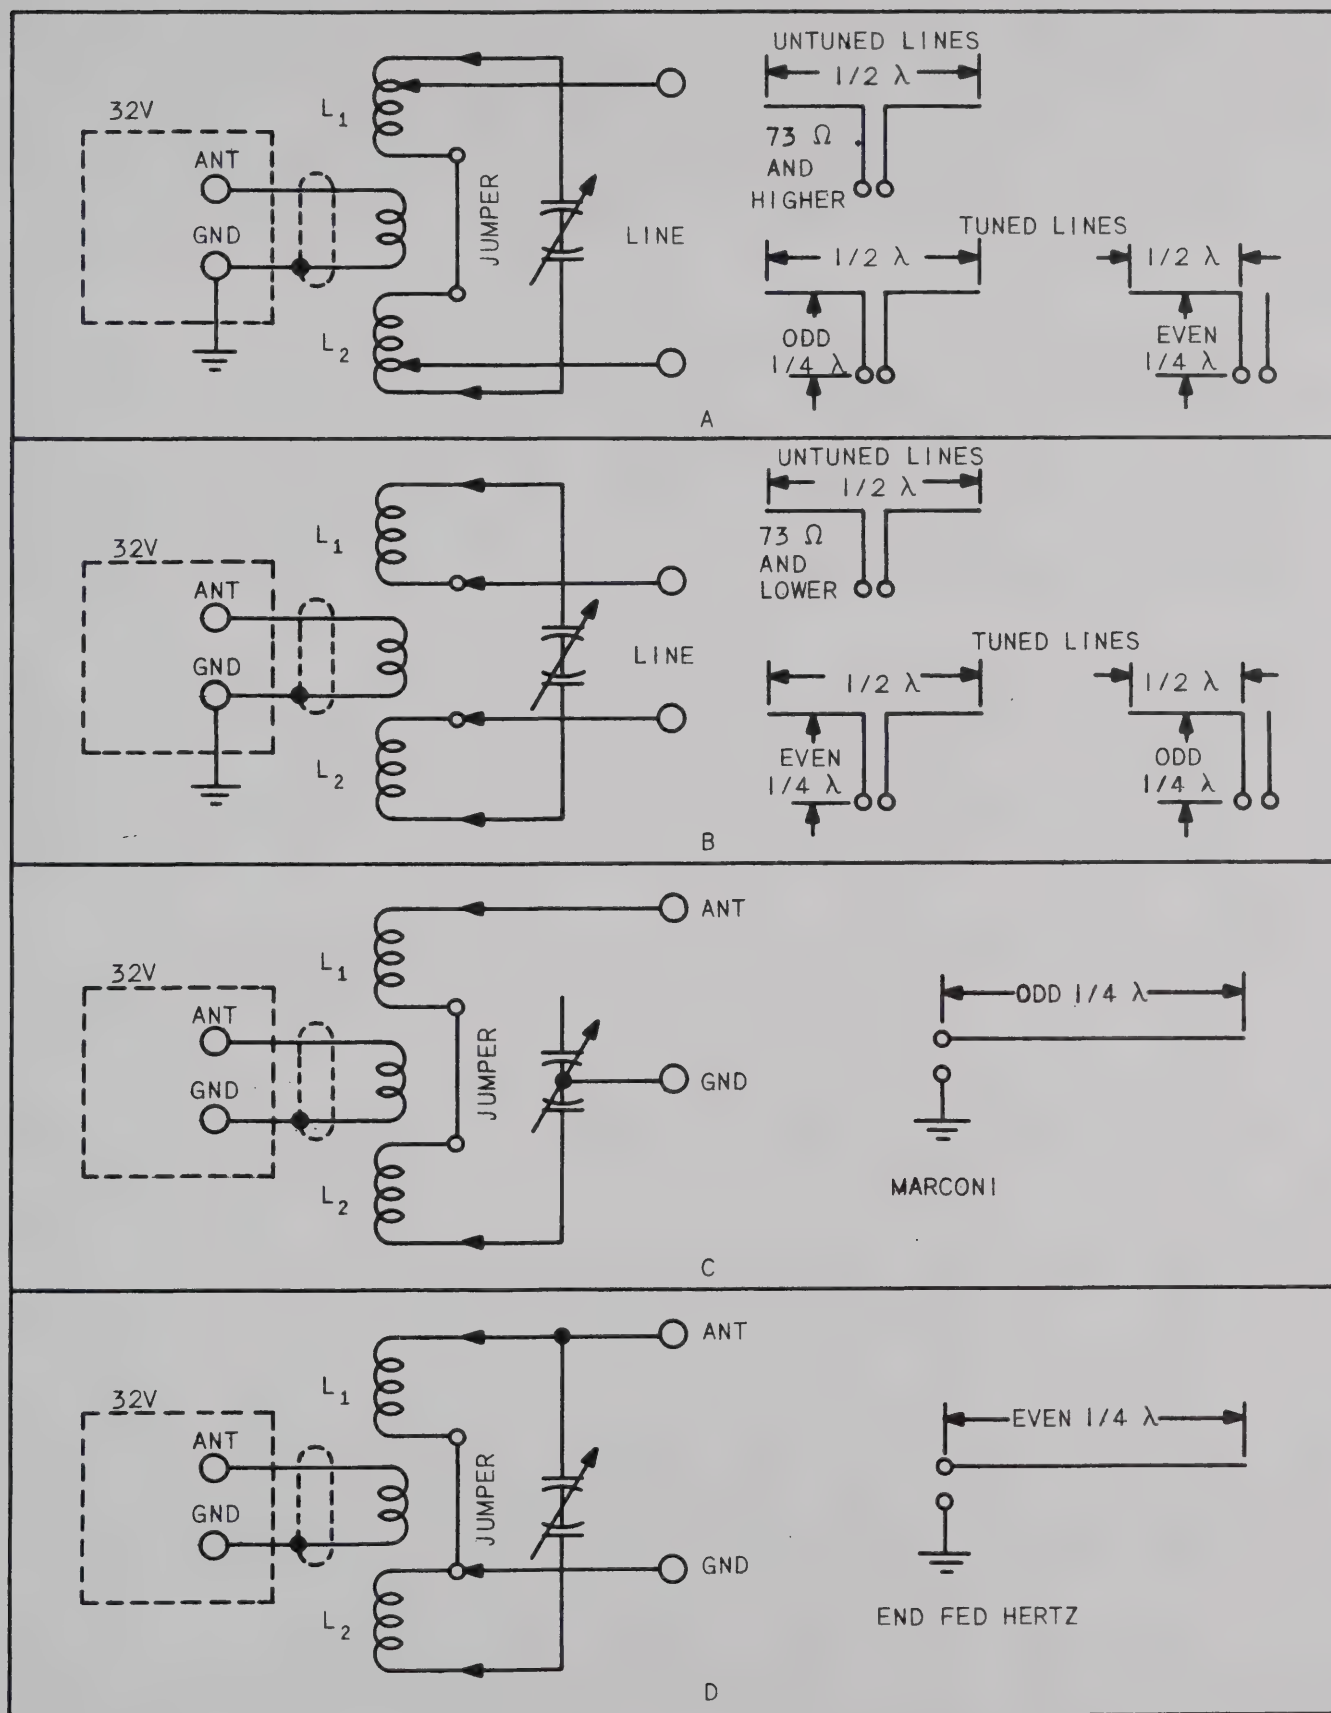

Figure 2-3 Typical Antenna Tuner Circuits
a. **UNTUNED HIGH IMPEDANCE TRANSMISSION LINE.** - If the line has a characteristic impedance of 73 ohms or more, parallel tuning of the antenna coils L1 and L2 should be employed. For parallel tuning, the little jumper seen above the antenna coils should be closed. The transmission line taps should be set on the same turns as the capacitor taps to start with, then varied towards the center of the coils until proper loading is obtained. The transmission line taps are those at the top of the coils while the capacitor taps are those nearer the bottom. In this type of operation, low values of capacitance and high values of inductance for the operating frequency generally are best. See illustration A., figure 2-3.
b. **UNTUNED LOW IMPEDANCE TRANSMISSION LINES.** - Transmission lines having a characteristic impedance of less than 50 ohms require series tuning of the antenna coils. This is done by opening the small jumper above the coils and moving the transmission line tap arms to the inside coil turns. The capacitor taps should be set at the outside turns and varies towards the inside turns until proper loading is obtained. Higher values of tuning capacity usually work out best in this type of operation. See illustration B., figure 2-3.
e. **QUARTER WAVE MARCONI.** - Series tuning is indicated for quarter wave Marconi antennas. In this type of operation, the antenna tuning circuit should be connected so that the two sections of the antenna coil and one half of the antenna tuning capacitor are in series. To do this, place a grounding jumper to the rotor of the antenna tuning capacitor, connect the antenna to one end of the antenna coil, connect one stator of the tuning capacitor to the other end of the antenna coil and disconnect the other stator completely. (Place a piece of insulation material between the tap rotor and the coil turns.) See illustration C., figure 2-3. In event r-f voltage appears on the cabinet, it can be minimized by extending the ground wire to 1/2 wave length and series tuning it until resonance is obtained,
f. **END FED HALF WAVE.** - This tuner can be used to tune this type of antenna also. Parallel tuning should be employed for this type operation. The antenna should be connected to one end of the antenna coil, a ground connection should be made to the inside turn of one of the antenna coils and the little jumper on top of the coils should be closed. The tuning capacitor taps should be equally spaced from each end of the antenna coils for proper tuning at the operating frequency. See illustration D., figure 2-3.